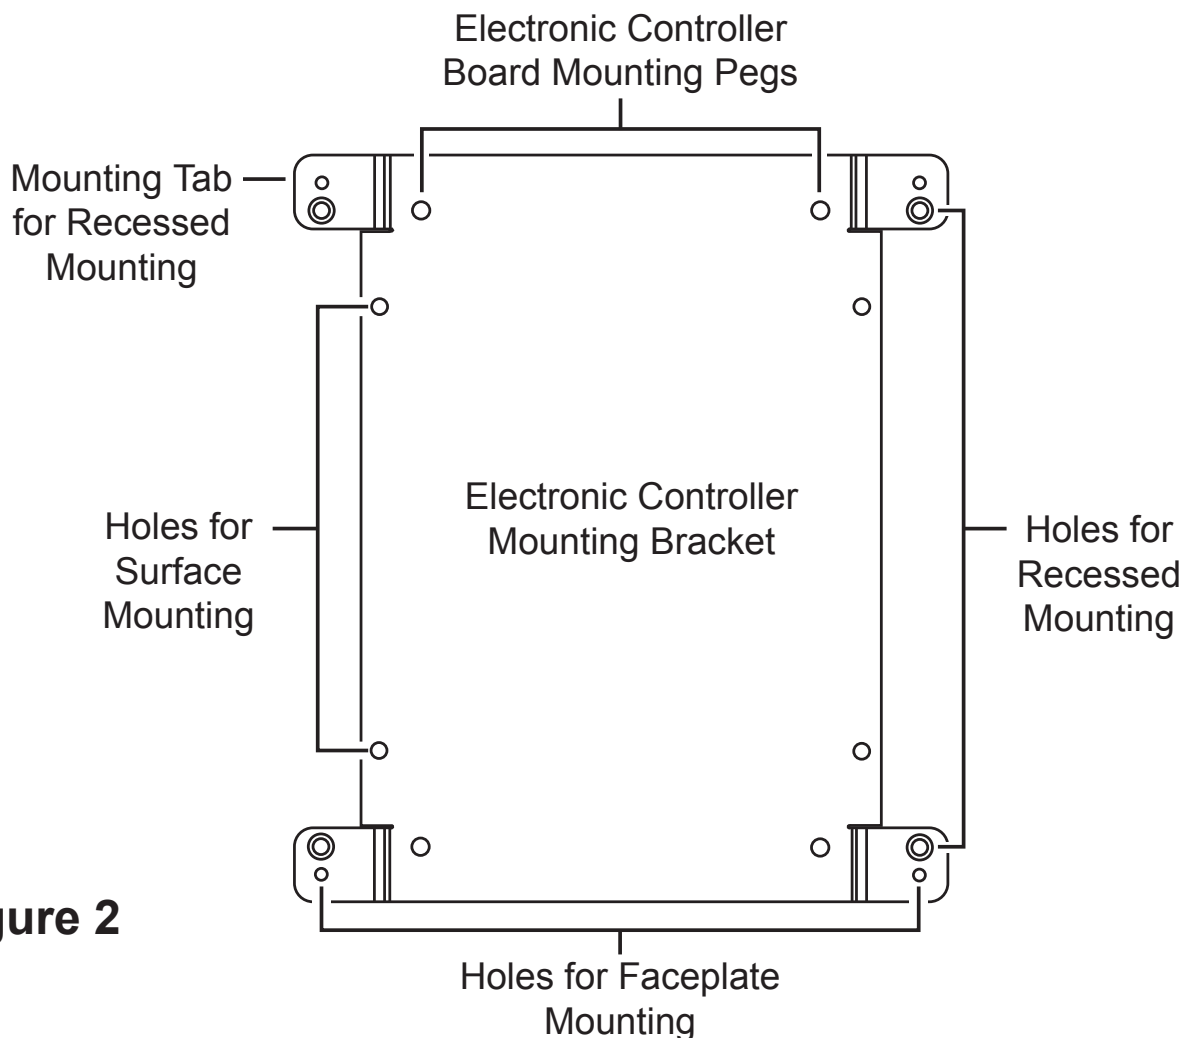

Figure 2
3. To recess mount the Electronic Controller, cut out a 7.25 inches W x 10.25 inches H opening and place the Mounting Bracket in the cut-out. Secure all four (4) Mounting Tabs to the wall. Reference Figure 2 for the location of the Mounting Tabs and the Recess Mounting Holes.
4. Once all wiring for the Aqua-Hot is complete, attach the Face Plate to the Mounting Bracket (reference Figure 2) and secure it with four (4) screws.